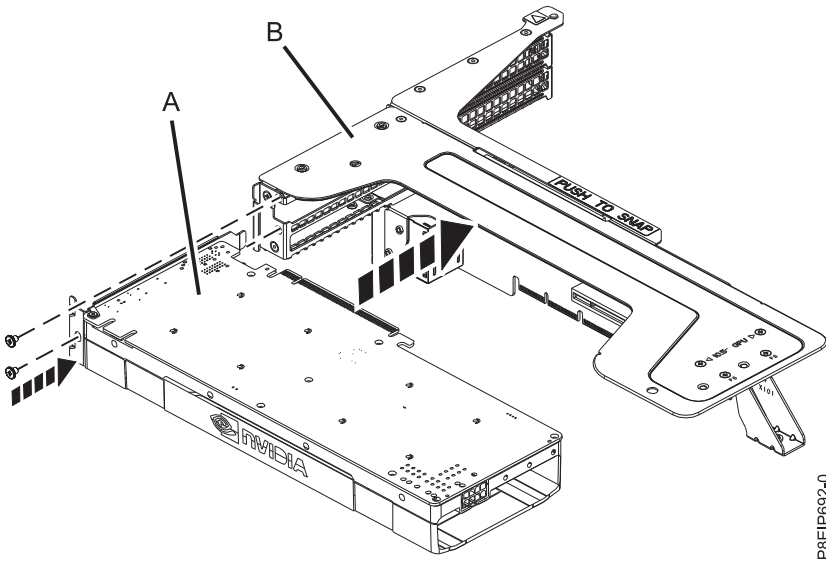

Figure 12. Inserting the GPU into the riser
- e. Insert the GPU (**A**) into the PCIe adapter riser (**B**) as shown in Figure 12.